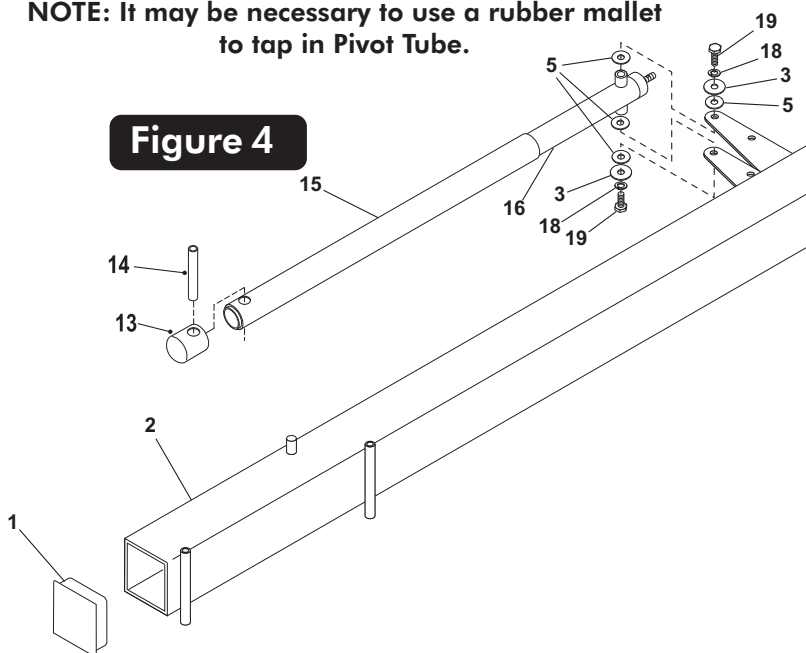

Figure 4
2. If not already pre-assembled, slide Plastic Actuator Sleeve (#15) over Steel Actuator (#16) and place Actuator Cap (#13) on top. Align holes in all 3 parts and slide Pivot Tube (#14) through holes in Actuator Cap (#13) Plastic Actuator Sleeve (#15) and Steel Actuator (#16) until equal amounts stick out through both sides of actuator. See Figure 4.
3. Lay Pole (#2) on its side on two padded saw horses. Secure Actuator (#16) to Pole (#2) using one bolt (#19), split lockwasher (#18), washer (#3) and two plastic washers (#5) to thread into each side of Actuator. See Figure 4. Tighten bolts tight.